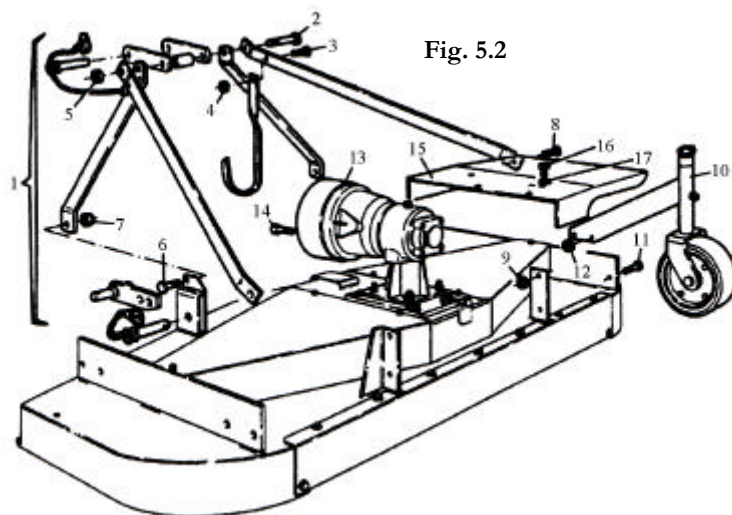

Fig. 5.2
- Mount the conveyor "15" using the screws "16" and the washers "17". **Fig. 5.2**